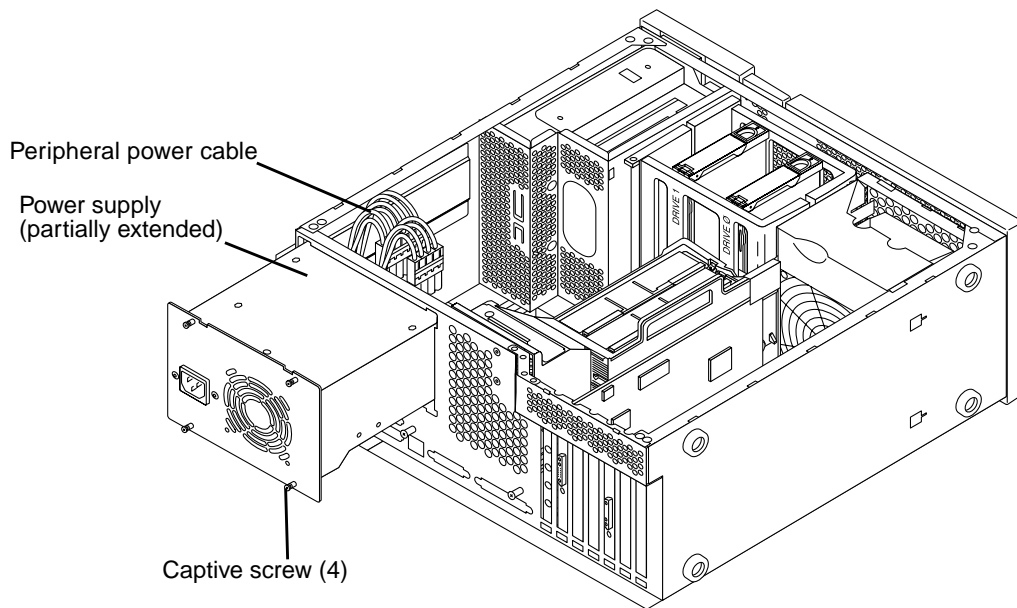

FIGURE 1-11 Replacing the Power Supply
1. Replace the power supply as follows (FIGURE 1-11):